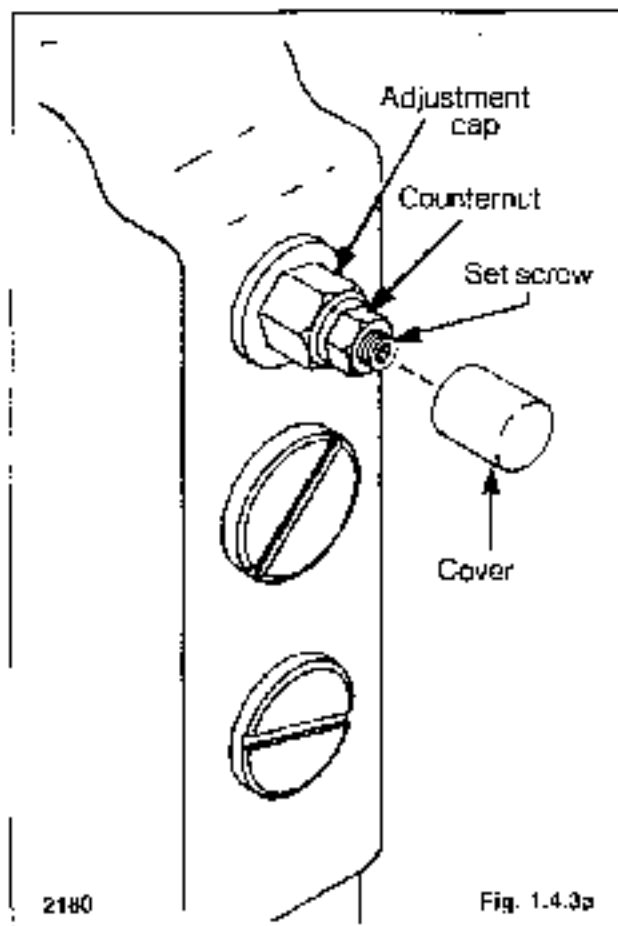

Fig. 1.4.3a
6. Open rear door. Remove the cover from the adjustment cap on the rear of the self-level valve. See fig. 1.4.3a.